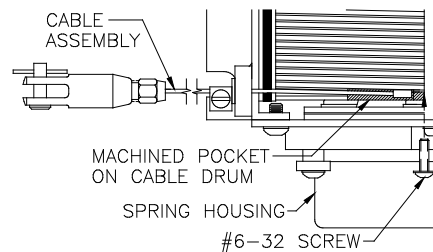

Fig. 3 Location of pocket on cable drum.
2) The new cable end should lay in the machined pocket on the drum (see **Fig. 3**). Re-insert screw through cable end eye and into threaded hole on drum with Allen wrench and tighten.